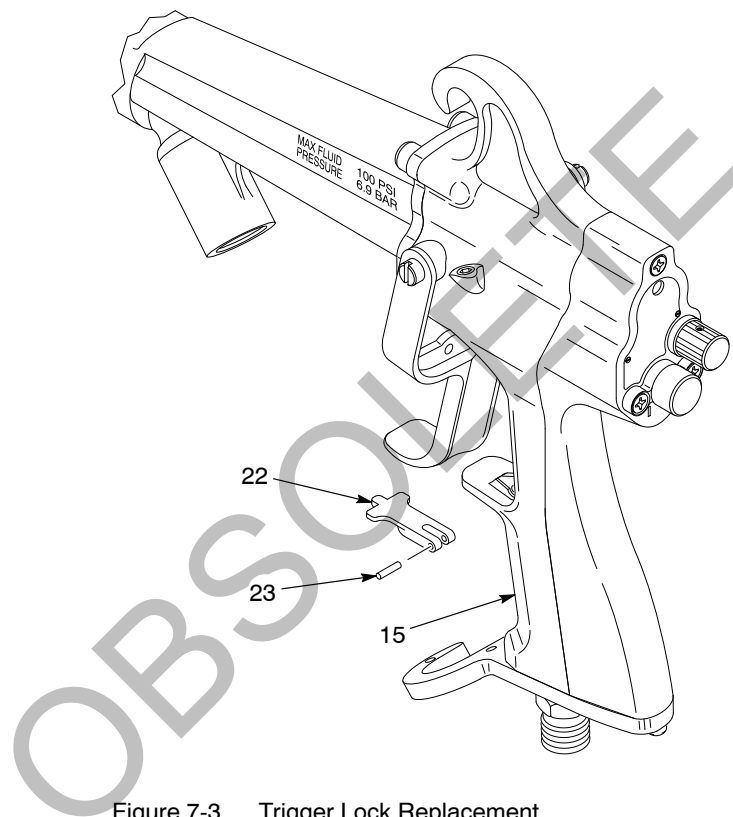

Figure 7-3 Trigger Lock Replacement
1. See Figure 7-3. Drive the pin (23) out of the trigger lock (22) and handle (15) with a small dowel pin.